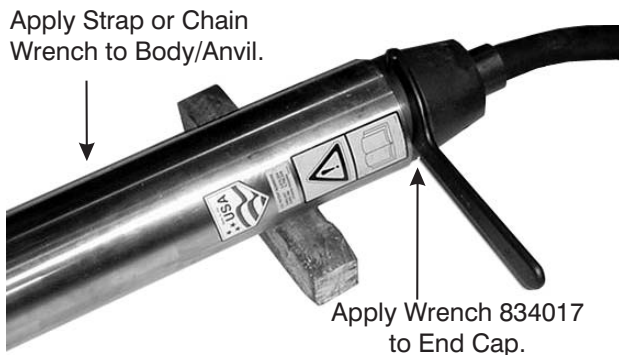

Figure 11-1. Loosening the End Cap
1. Place the Hole-Hog on the work area tarp. Hold the Body/Anvil (1) with a strap wrench. Use wrench P/N 834017 to loosen the End Cap (9). It may be necessary to strike the wrench handle several times with a hammer to loosen the End Cap. Refer to Figure 11-1.